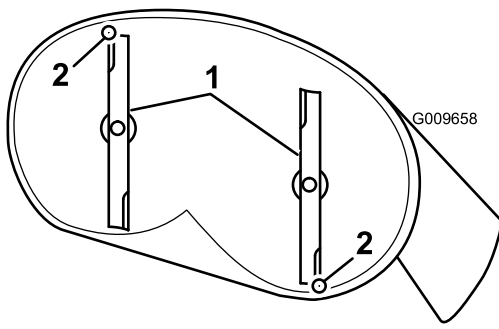
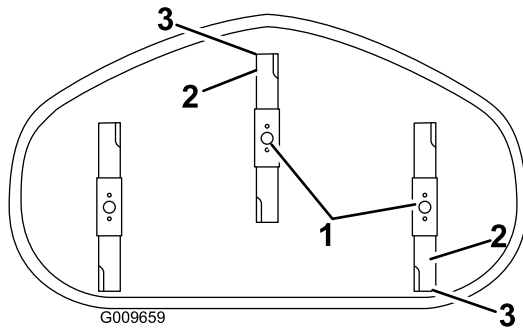

Figure 67
Figure 68
4. Carefully rotate the blades so they are facing front to rear (Figure 67 and Figure 68).
5. Measure from the tip of the front blade to the flat surface, and the tip of the rear blade to the flat surface (Figure 67 and Figure 68).
9. After adjustment, check the front-to-rear slope again, continue adjusting the nut until the front blade tip is 1.6 to 7.9 mm (1/16 to 5/16 inch) lower than the rear blade tip (Figure 67 and Figure 68).